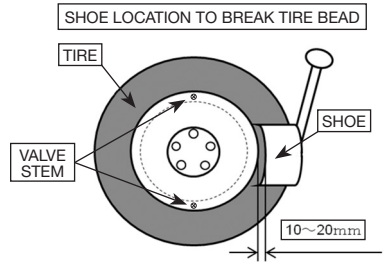

Fig. 1
1. Position the tire/wheel so that the valve stem is located at the 6 or 12 o'clock position at all times when breaking the bead. (see Fig. 1)